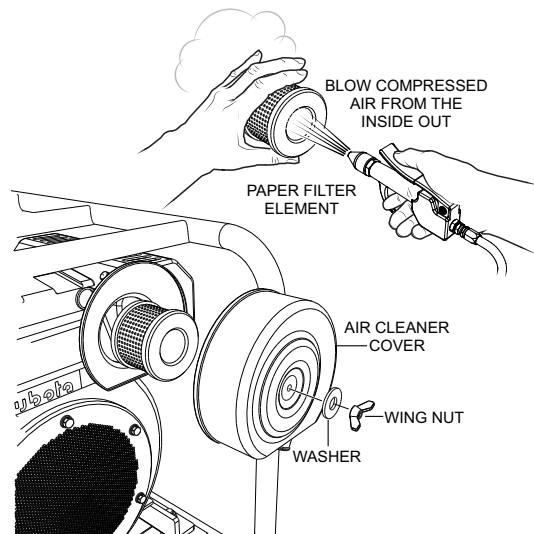

Figure 12. Engine Air Cleaner
1. Loosen the wing nut and detach the cover of the air cleaner shown in Figure 12.
2. Tap the element (Figure 12) several times on a hard surface to remove dirt, or blow compressed air [not exceeding 30 psi (207 kPa, 2.1 kgf/cm2)] through the element.